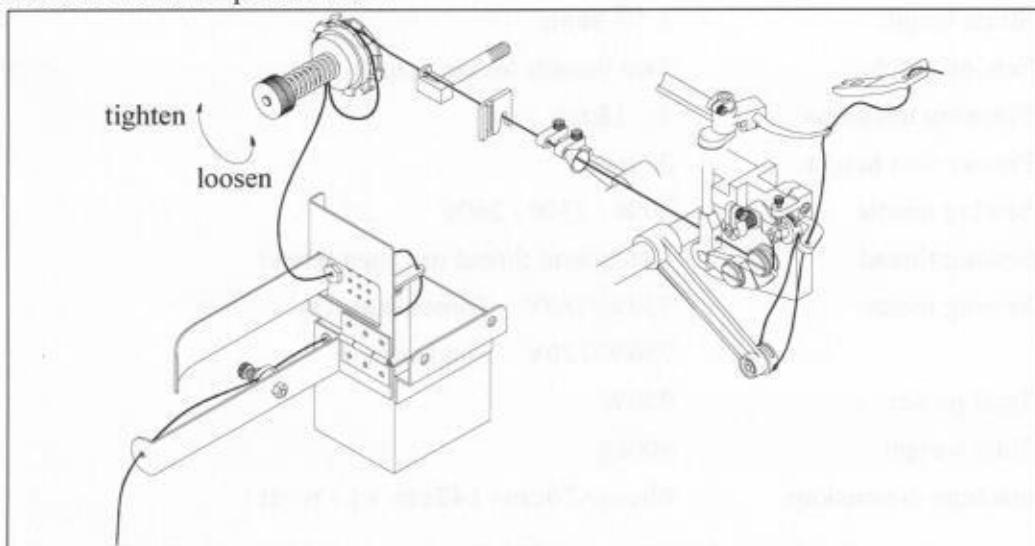

Fig.2
**3.4** Threading the lower thread as indicated in Fig.2, the thread guider is used to introduce the thread to the lower presser foot.
**4.7.2** Rotate the adjusting knob to set the tension of lower thread. (as shown in Fig.2)